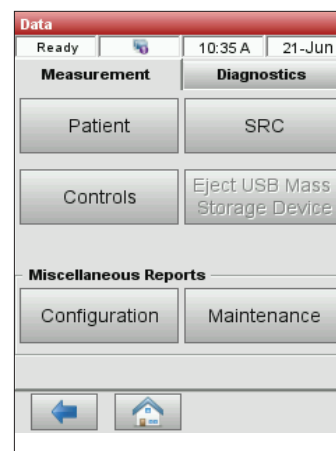

Figure 7. Printing options
- In the Measurement section, tap **SRC** (figure 7).